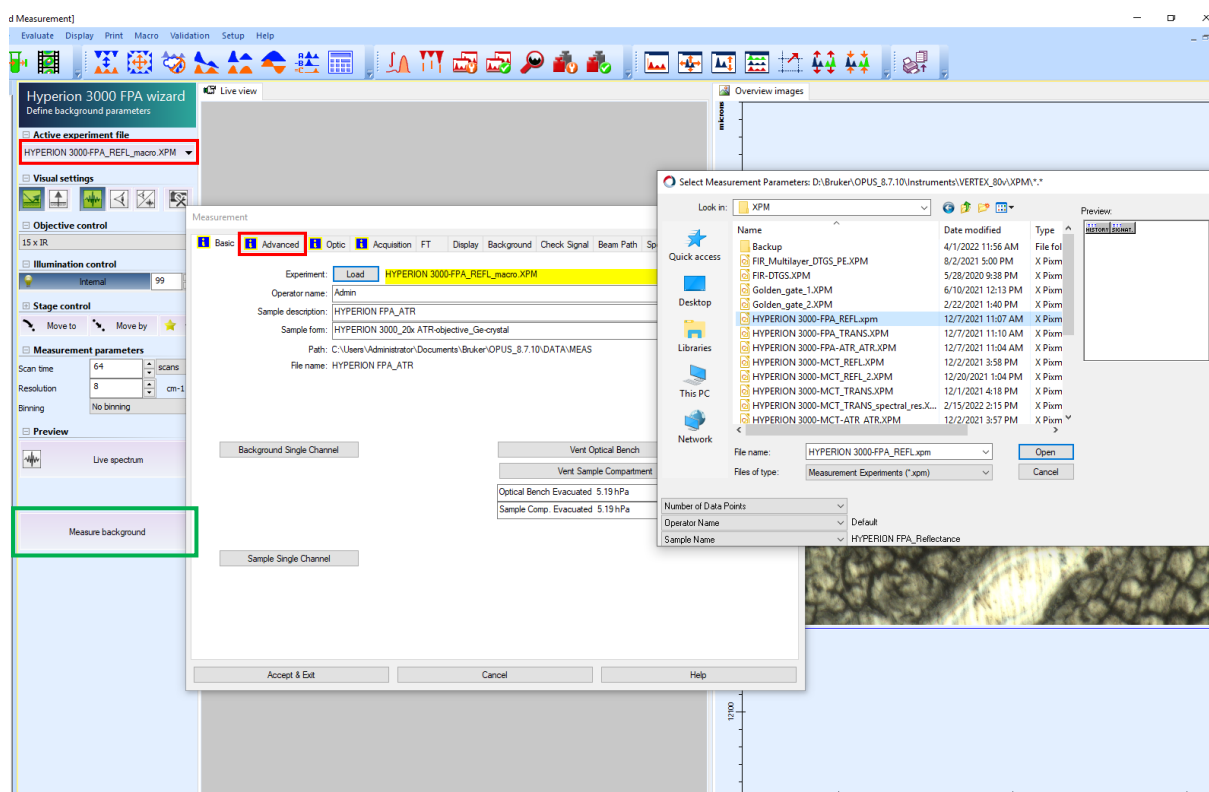

Fig. 8. Loading of chosen experiment
3. Selection of experiment parameters - spectral resolution, wavelength range, and the type of data (absorbance, interferogram, etc.) are selected and saved in the so-called "Experiment". In the upper left corner, there is information about the loaded experiment ("Active experiment file"). In the case of transfection or reflection measurements, select "HYPERION 3000-FPA_REFL.XPM" from the list of experiments (Fig. 8)
To measure the background, a single measurement is made with the aperture set previously. The appropriate experiment has to be chosen in the ("Active experiment file") (Fig. 8). It is "HYPERION 3000-MCT_REFL_2.XPM" for measurements in reflection and transflection mode, and "HYPERION 3000-MCT_TRANS.XPM" for transmission mode.